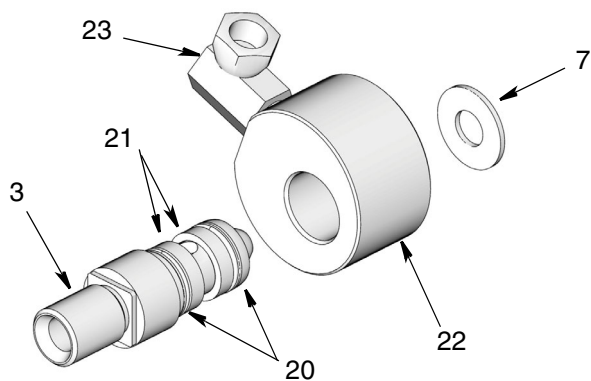
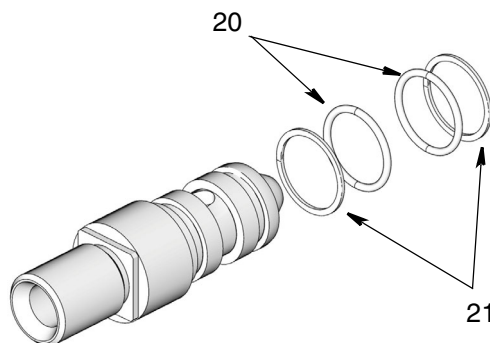
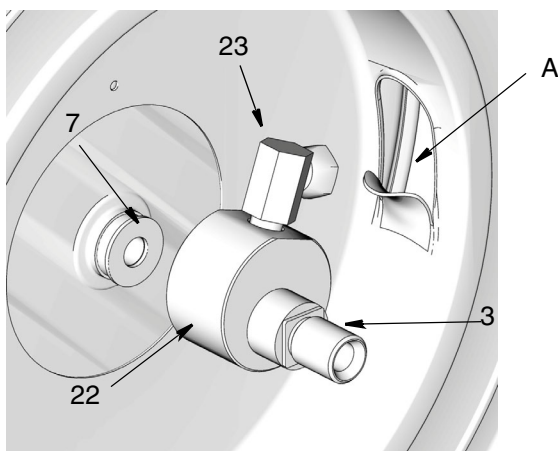

FIG. 6
FIG. 7
FIG. 8
5. Remove large nut (32).
6. Remove two screws (27) holding pedestal (26) to base (24) and three screws (52) and nuts (53) holding hose guide (31) to guide arm (30).
8. Lay hose reel on it's side, spool side down. Remove long bolt (18) and washers (15 / 16).
The swivel assembly is held in place by the tension created when bolt (18) is tightened and securely in place. When this tension is removed by loosening the bolt, the swivel and swivel shaft assembly can be removed (FIG. 6).
2. Carefully remove seals (20 and 21) from swivel (FIG. 6 and FIG. 7).
3. Install new o-ring seals from kit in order shown in FIG. 7, page 4. Also refer to FIG. 6, page 4 for location of these seals on the swivel cylinder.
2. Assemble swivel assembly (3, 22) and fitting (23) as shown in FIG. 6, page 4.
3. Install washers (15 / 16) over end of bolt (18) and slide them over the threads to the bolt head.
4. Slide bolt (18) through hole in center of spool. Do NOT tighten bolt.
5. Stand hose reel assembly upright on the base (24).
6. Install new swivel assembly and washer (7) in spool. Align fitting (23) with opening (A) in side of spool (FIG. 8). For hose reel to operate correctly, these parts must be aligned correctly.